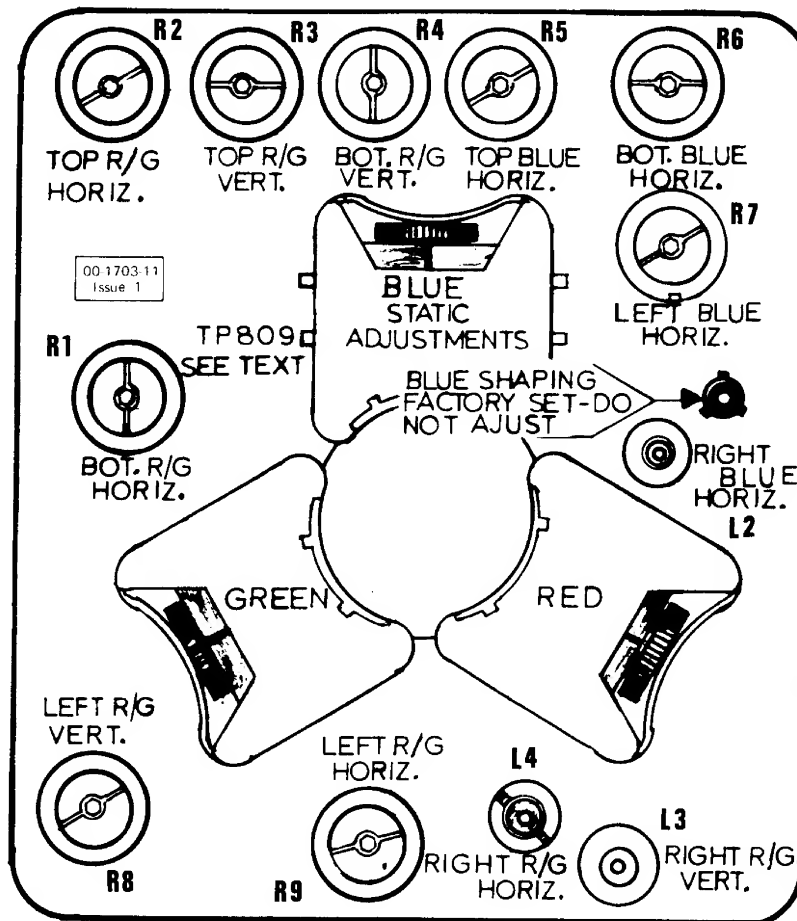

Figure 11 - Dynamic Convergence Panel
3. Adjust dynamic convergence as follows (see figure 11) with yellow cross-hatch test pattern (red + green)